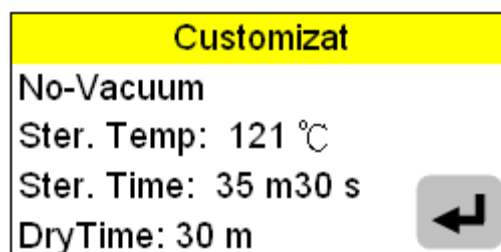

Figure 88
- I. Press  or  button until as shown in Figure 88.